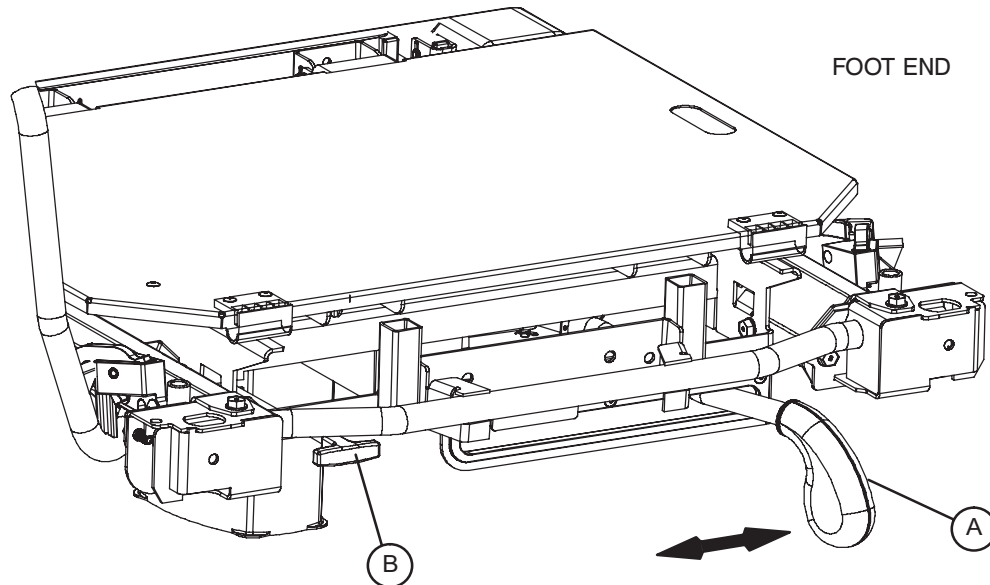

Figure 8 - Knee Gatch - Foot End
To raise the knee gatch, pump handle (A) repeatedly to the left as shown in Figure 8.
To lower the knee gatch, pull out handle (B) as shown in Figure 8.